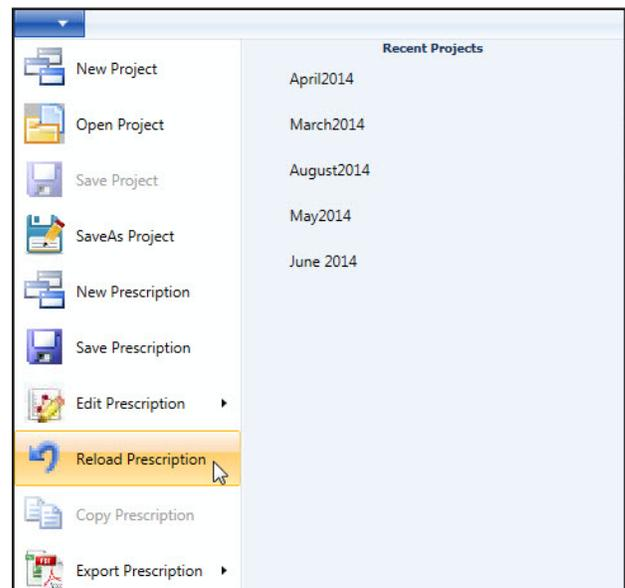

Figure 29-1 VRI Drop-down Menu
1. Select **Reload Prescription** in the VRI drop-down menu. (Refer to Figure 29-1.)